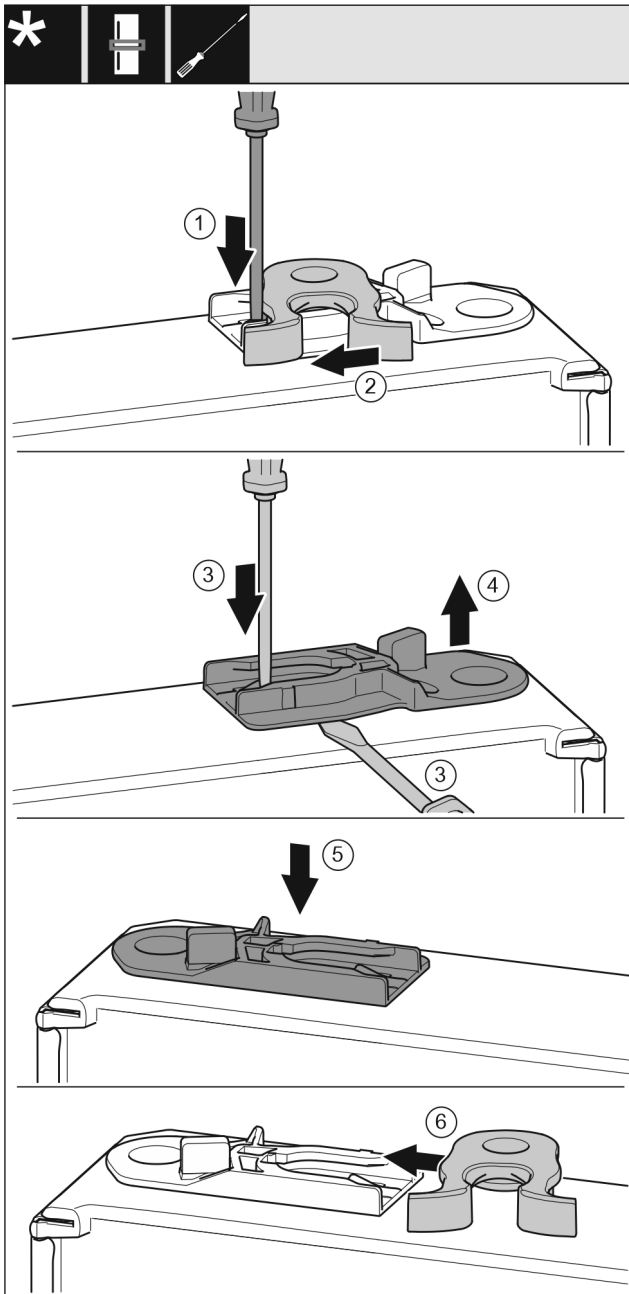

Fig. 19
- Push the lug downward with a slotted screwdriver. Fig. 19 (1)
- Pull the door latch out of the guide. Fig. 19 (2)
- Pull out the guide bush: Press the lug with a slotted screwdriver and, at the same time, insert the slotted screwdriver under the guide bush. Fig. 19 (3, 4)
- Slide the guide bush included in the scope of supply to the other side of the housing. Fig. 19 (5)
- Push the door latch into the guide. Fig. 19 (6)